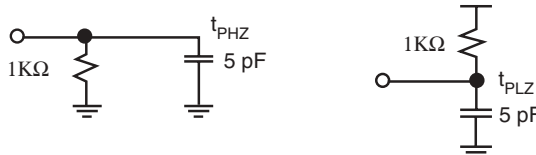

Figure 2: Loads used for t_{PXZ}
a. The loads presented in **Figure 2** are used for t_{PXZ}: